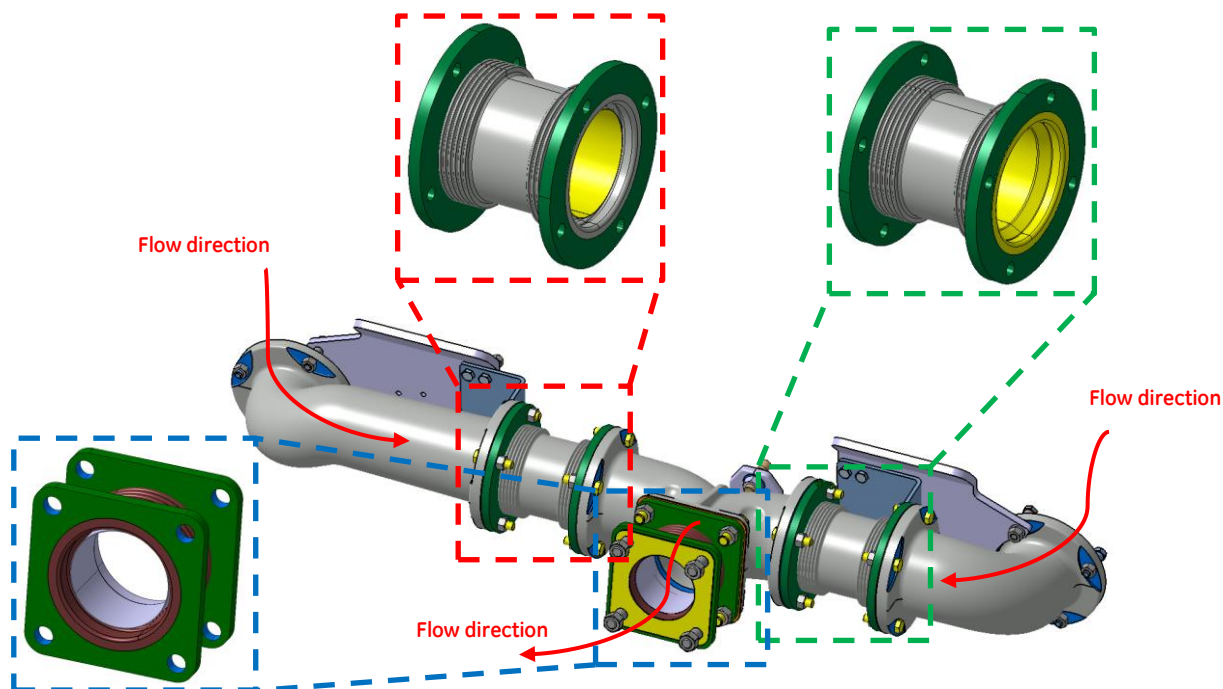
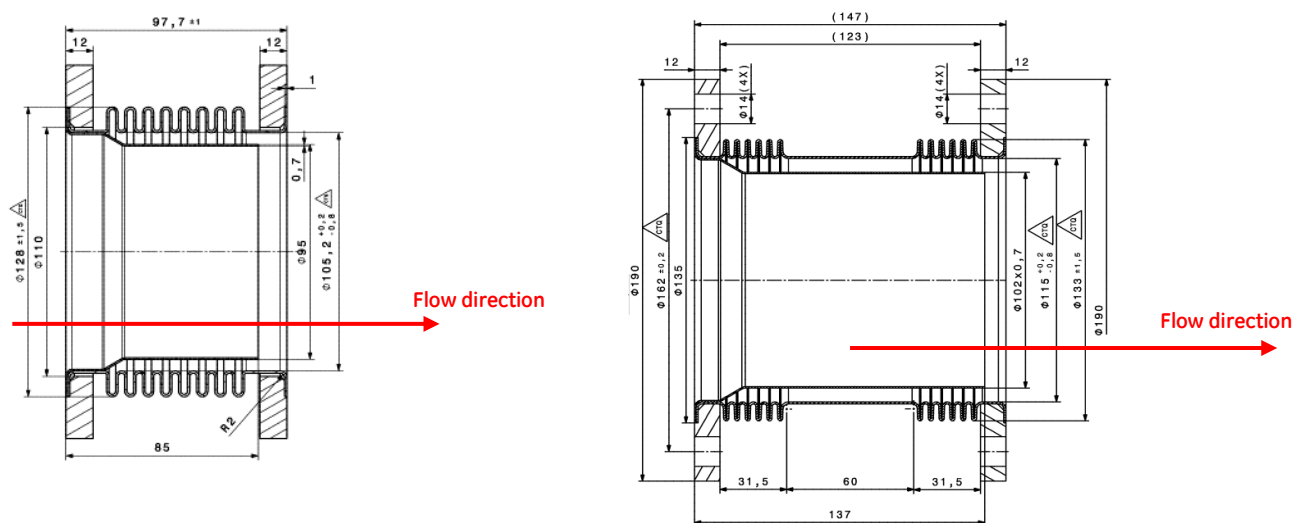
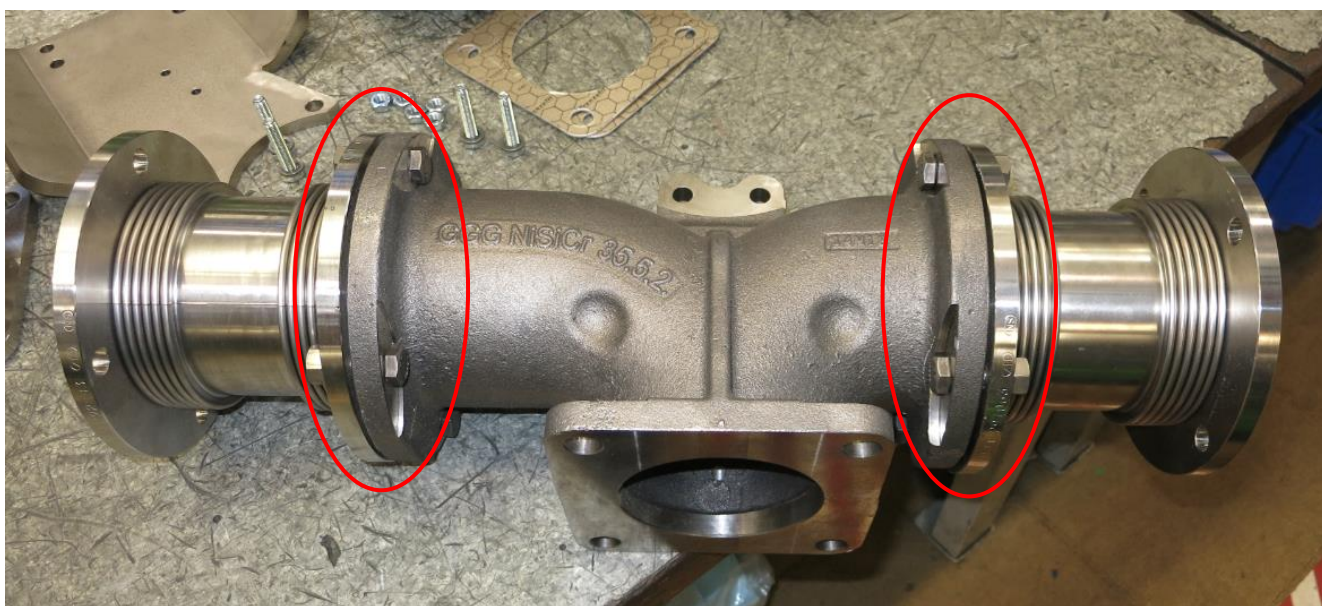

Figure 1: Exhaust-gas manifold to be fitted, including turbocharger mounting
Figure 2: Flow direction compensator
Figure 8: Preassembling the T-piece including compensators
When installing the exhaust manifold and the turbocharger assembly, make sure that the expansion joints are installed correctly! In the sectional views shown in Figure 2, the direction of flow is represented by the compensator. Figure 1 shows the flow direction and the correct installation of the compensators.
- ✓ Preassemble the T-piece including compensators as shown in Figure 8
Use high-temperature gaskets between T-piece and compensators, see Figure 8. Furthermore, attention must be paid to the correct installation position (flow direction)! See also Figure 1.
Use temperature-resistant bolts and nuts, see Figure 8. Coat the bolt threads with a high-performance solid lubricant paste to prevent corrosion, wear and seizing at high temperatures!